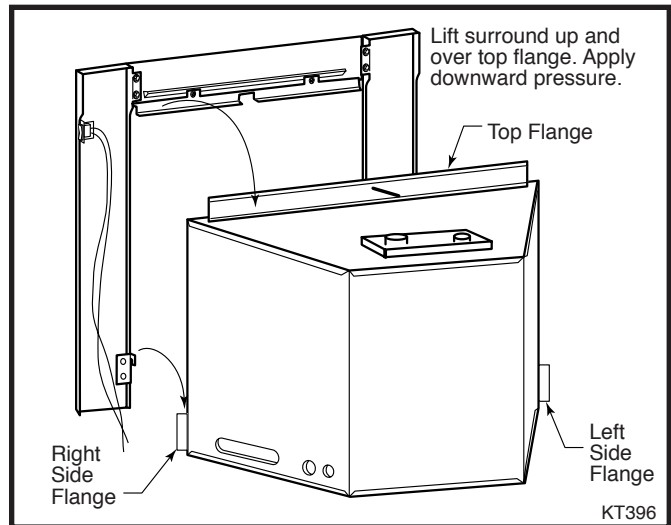

Fig. 5 Attach the cast surround to the fireplace insert.
2. Position surround in front of fireplace insert and, with the help of an assistant, gently lift the surround up and over the top flange and right and left side flanges. Secure surround by applying downward pressure until the lower brackets have engaged onto the left and right side flanges. (Fig. 5)